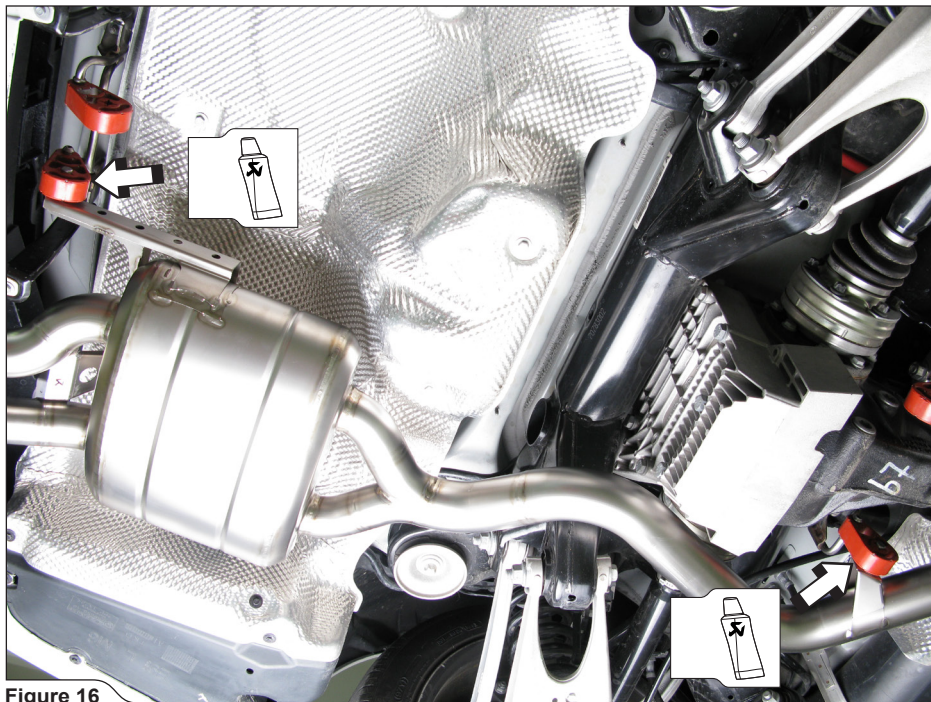

Figure 16
8. **For Slip-On and Evolution:** slide both Akrapovič mufflers onto the middle pipes and hang them onto marked stock rubber brackets (**Figure 16**).